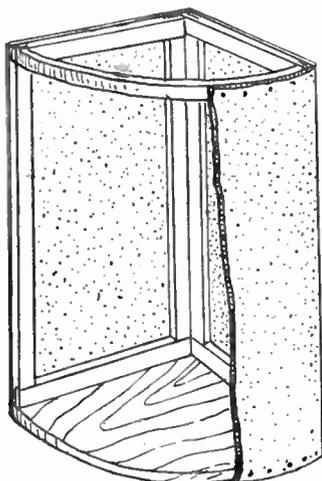
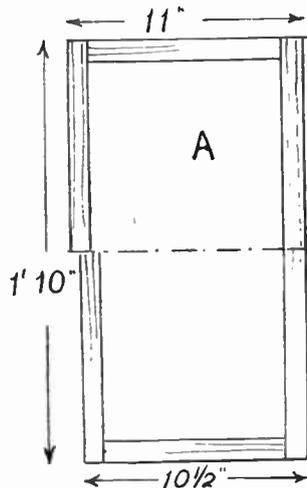

Fig. 2—Constructional details
Fig. 1—Side frames and bottom, with joint detail
Details of the sides and bottom are given in Fig. 1 and diagram. Fig. 2 shows the general build up of the article. First make up a couple of light wood frames to dimensions given in Fig 1 (A). These are constructed from $\frac{1}{2}$ in. by 1in. wood strips and joined together at the corners with the simple halved joint, shown at (C), which every reader is well acquainted with, we think.
The sides and curved front of the basket are covered with cardboard, as in the constructional detail in Fig. 2. You can, of course, buy a sheet or two of cardboard for this part of the work, or if you feel like being economical, use the cardboard from grocers' containers,
As a rule these have a curved structure with three bars, two each side and one in the centre. Remove the bar from what will be the back and leave the centre and front one. Shoes will then rest with heels on middle rail and soles on outer rail (see Fig. 1). If you want more space then add another set of bars between the existing sets. Give a coat of stain and the fixture can stand in any odd corner.
The board for this (shown in Fig. 2) can be $\frac{1}{2}$ in. thick or made from panel board with a 1 in. square edge, rounded at the corners. Use panel fine pins for fixing. The top could be linoleum covered to save damage from water, and if possible fix it at window level. It can, space permitting, extend out about 3 ins. from the wall or alcove.